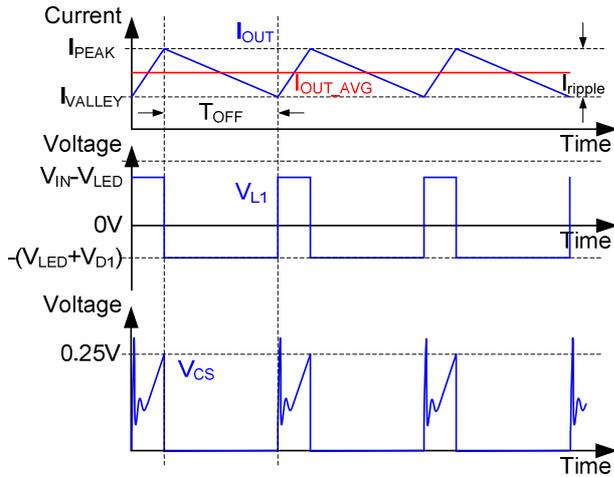

Figure-5 The waveforms of  $V_{CS}$ ,  $V_{L1}$  and  $I_{OUT}$  that shown in the Figure-1.
GR8210 operates with the peak current sensing and the constant off time. The peak current sensing and the line voltage compensation align the peaks of  $V_{CS}$  identically to determine the same  $I_{PEAK}$  that shown in the Figure-5. The  $I_{VALLEY}$  was determined by the  $T_{OFF}$ . GR8210 provides an off time setting function via connect a resistor from  $R_T$  to GND. A simple way is connect  $R_T$  to VCC directly to use the default off time that the value is approximately 9.3 $\mu$ s.
The (2) and (3) were generated according to the Figure-5. They usually used to determine the inductance of the power inductor.
Where, the  $I_{OUT}$  is output current that user defined, the  $K$ . is the percentage of  $I_{OUT}$  to estimate the worse case and the value usually is range of 20%~40%. Beside, the maximum rate current and saturation current of the inductor must greater than the  $I_{PEAK}$  that shown in the Figure-5.
Two specifications of freewheel diode must be considered, the maximum reverse voltage must be greater than maximum voltage across the diode. The average rectified current also must be greater than  $I_{PEAK}$  that shown in the Figure-5. The ultra fast diode is recommended to use as the freewheel diode.